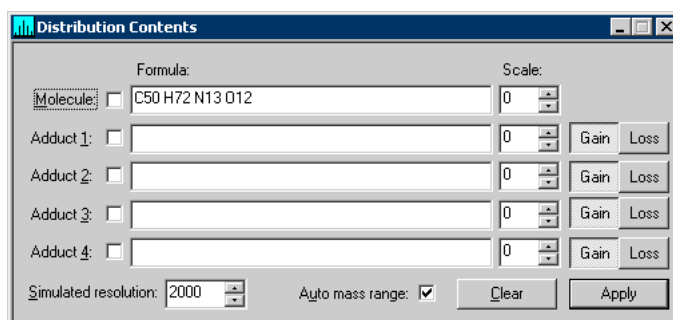

Figure 23.1 Distribution Contents window
To create a distribution display, set the **Display** option to **Distribution**, then click on the toolbar Display Contents button  to show the "Distribution Contents" window (Figure 23.1).
3. Set the parameters as shown in Figure 23.1.